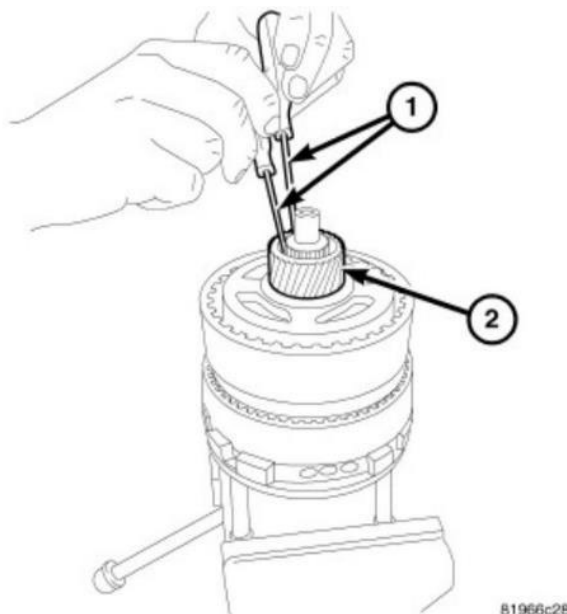

Figure 32 – Sun Gear Retaining Clip
46. Using two small picks (1), remove the retaining clip from transfer shaft (Figure 32).